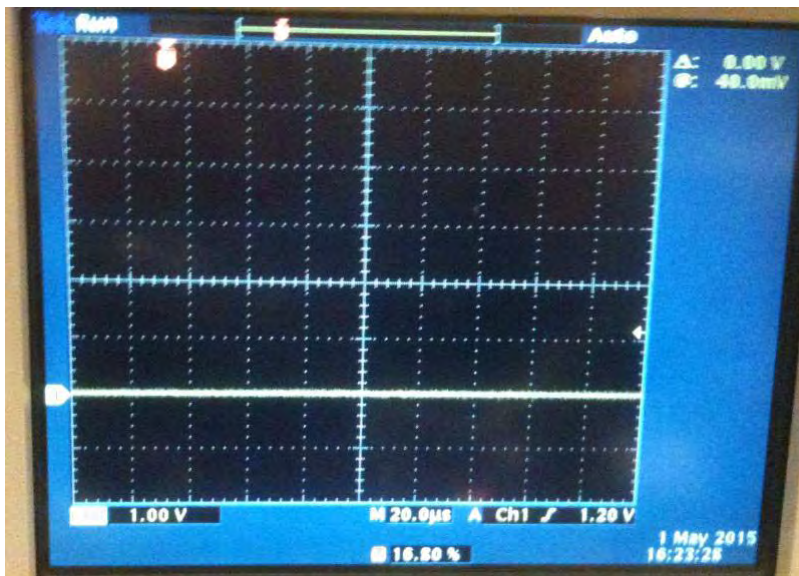

Figure 5. 0% Duty Cycle Waveform
7. Put the oscilloscope probe on R3 at TP1 to look at the PWM waveform. It should show a 0% duty cycle waveform as shown in Figure 5.